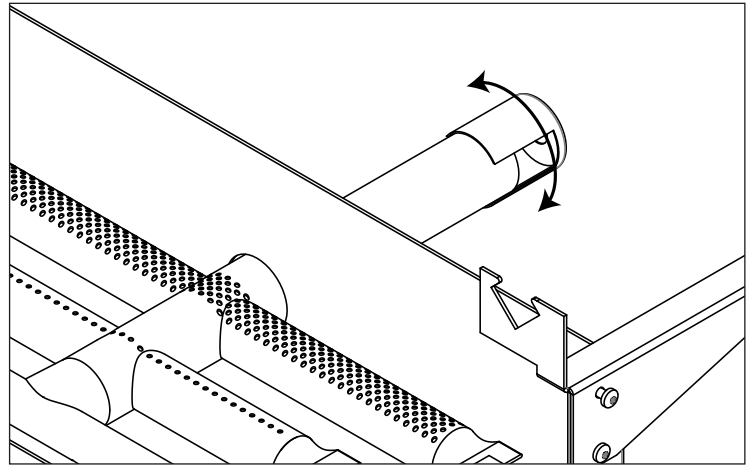

Figure 11: Burner Cap Adjustment
2. The cap at the back of the burner assembly can be rotated to open/close the air channel for the burner (see Figure 11).